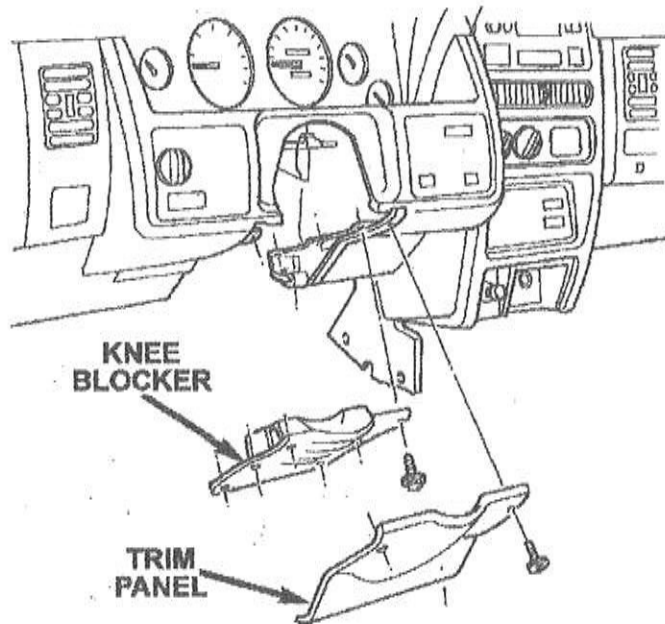

Figure 2
8. Remove the driver side instrument panel lower trim panel and knee blocker (Figure 2).
53. Install the knee blocker and trim panel (Figure 2).